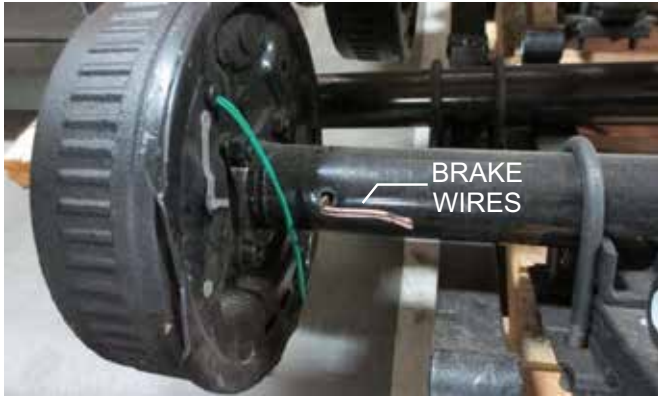

Figure 10. Brake Wire Orientation
1. When installing the new axle (3,500 lbs/1,587 kg), place the axle so that the brake wires (Figure 10) are oriented towards the rear of the water trailer.